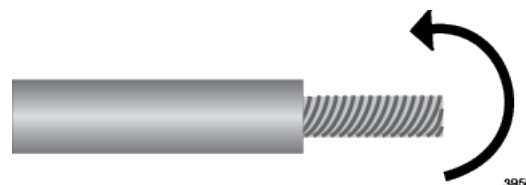

Figure 40. Wrapping the Wire Strands
2. Tightly wrap the wire strands with your finger tips. Refer to Figure 40. This can prevent loose strands from touching other wires and causing an electrical short.
2. Tightly wrap the wire strands with your finger tips. Refer to Figure 40 on page 92. This step can prevent loose strands from touching other wires and causing an electrical short.